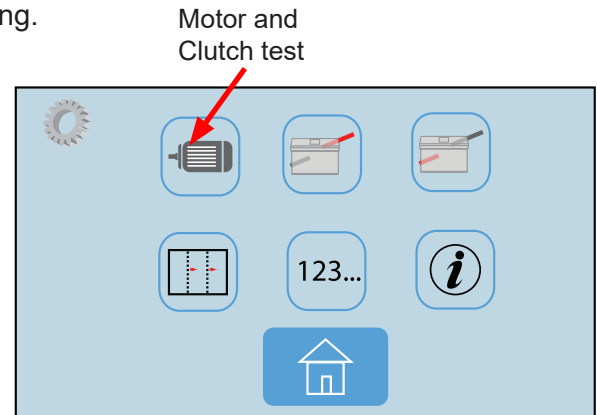

Fig. 37
- From the Service Mode Home Screen select the motor icon  (Fig. 37).
- From the Service Mode Home Screen select the Upper Fold Table Test icon  (Fig. 37).
1. From the Service Mode Home Screen select the Lower Fold Table icon  (Fig. 37).
1. From the Service Mode Home Screen select the Fold Offset icon  (Fig. 37).